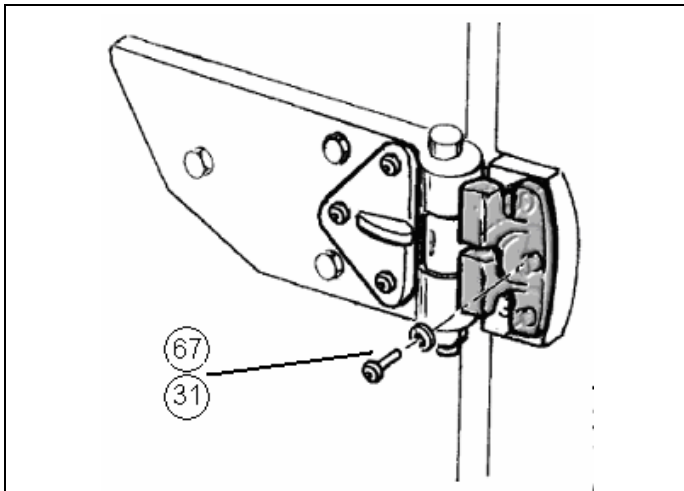

Figure 5-94. RH Armored Door Installation - Lower Hinge, Door Detent (3 of 4).
8. Install the door detent as shown in Figure 5-94. Snug the bolts down, but do not fully tighten at this time.